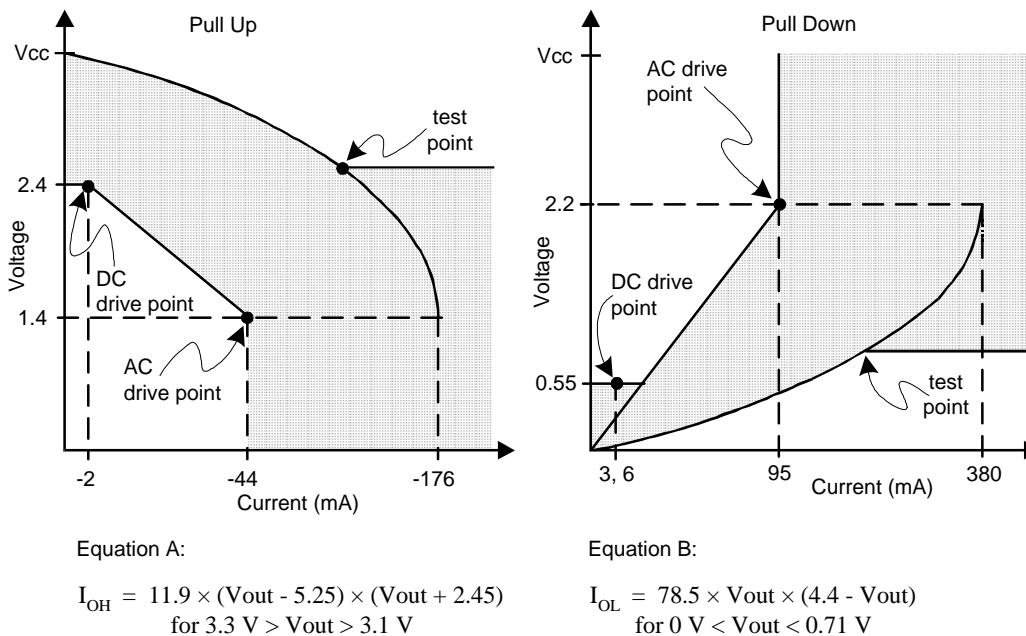

Figure 1. AC Characteristics
- Refer to V/I curves in Figure 1. Specification does not apply to PCICLK and RST# signals. Switching Current High specification does not apply to PME#, CLKRUN#, and INTA# which are open drain outputs.